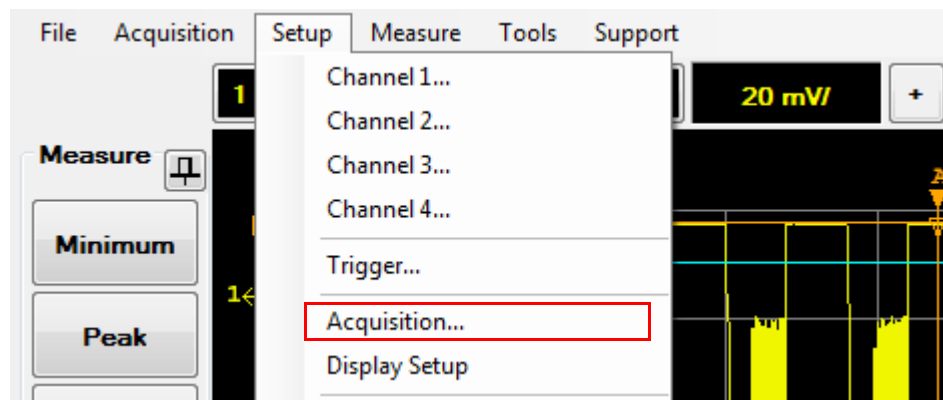

Figure 2-28 Acquisition selection in the Setup menu
- 1 Select **Setup > Acquisitions...** on the toolbar as shown in Figure 2-28.